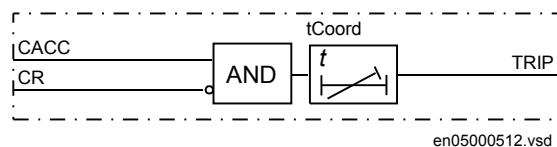

Figure 159: Basic logic for trip signal in blocking scheme
The received signal, which shall be connected to CR, is used to not release the zone to be accelerated to clear the fault instantaneously (after time  $t_{Coord}$ ). The overreaching zone to be accelerated is connected to the input CACC, see figure 159.
In case of external faults, the blocking signal (CR) must be received before the settable timer  $t_{Coord}$  elapses, to prevent a false trip, see figure 159.